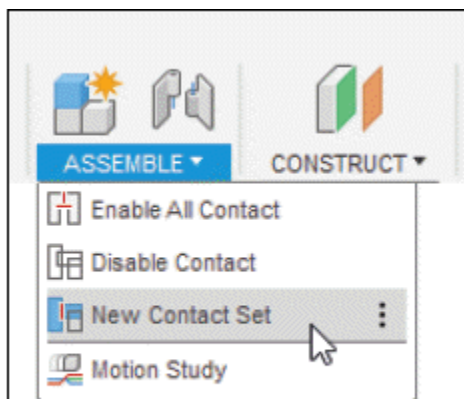
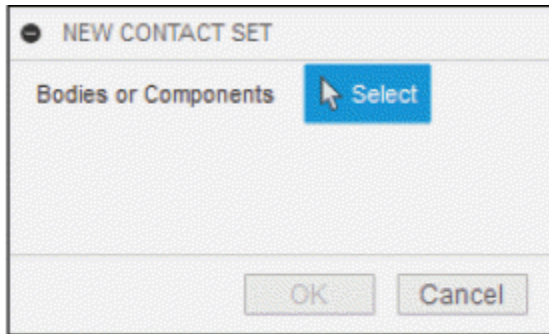

Figure-54. New Contact Set tool
Figure-55. NEW CONTACT SET dialog box
- Click on the **New Contact Set** tool of **ASSEMBLE** drop-down from **Toolbar**; refer to Figure-54. The **NEW CONTACT SET** dialog box will be displayed; refer to Figure-55.